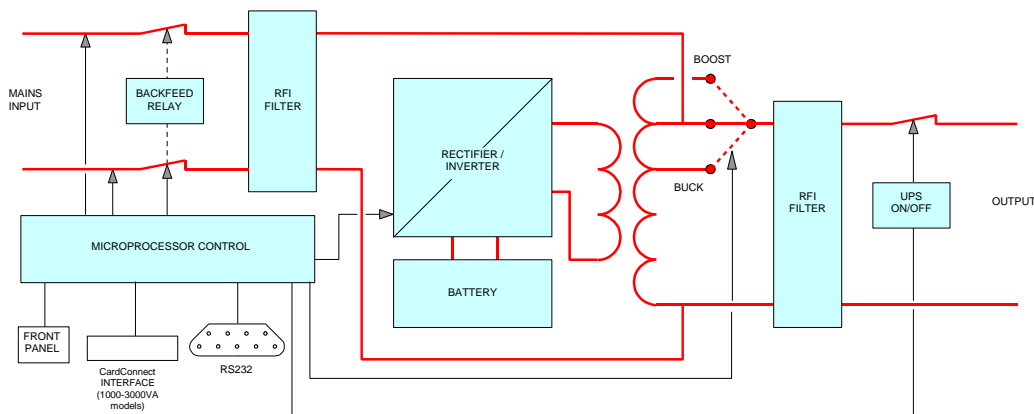

Figure 1 Block diagram of the Match UPS
Energy is stored as Direct Current (DC), while input and output energy must be Alternating Current (AC). Therefore the UPS contains a rectifier (to convert from AC to DC) and an inverter (to change energy from DC to AC). (See fig.1)